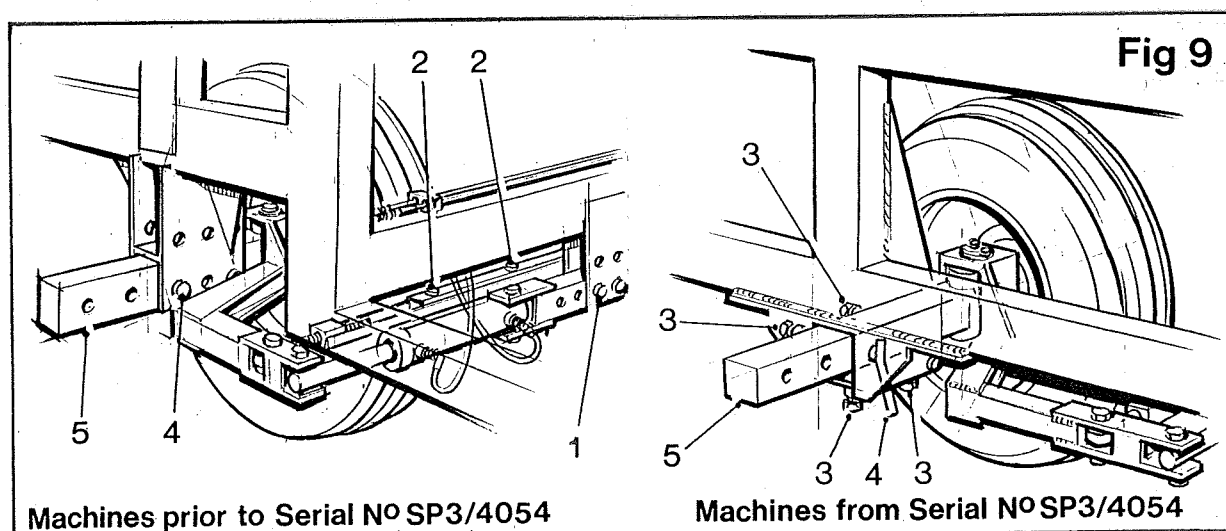

Fig 9
2. Remove ram bolts (item 1, fig 9).
3. Remove retaining bolts (item 2, fig 9).
4. Loosen axle clamp bolts (item 3, fig 9).
5. Remove stub axle location bolts/pins (item 4, fig 9).
6. Slide stub axles (item 5, fig 9) to required position (see fig 10).
7. Reposition location bolts/pins (item 4, fig 9) in correct holes and resecure (see fig 10).
8. Retighten axle clamp bolts (item 3, fig 9).
9. Replace ram bolts (item 1, fig 9) and retaining bolts (item 2, fig 9).